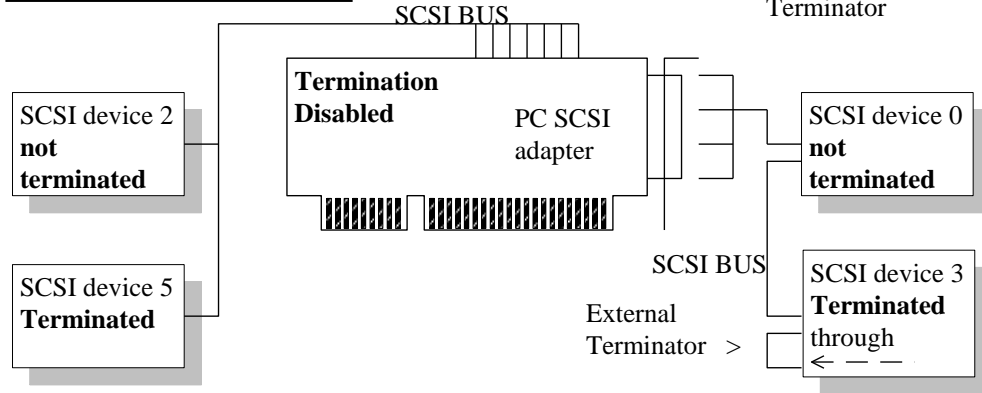

Figure 13: SCSI Cable Connection and Termination Configuration
Most SCSI adapters include a BIOS expansion that allows the system to boot from the SSD, once it is properly configured and high-level formatted. In addition, the BIOS expansion automatically installs support for the SSD and assigns it a drive letter for use under DOS or other operating systems. Figure 13 illustrates the SCSI cable connection and termination configuration.
4. Verify that the SCSI bus is properly terminated. Refer to Figure 13 for different termination configurations.